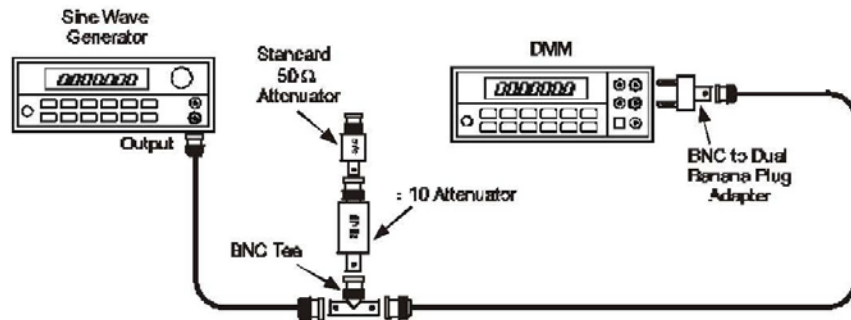

Figure 10, X10 Gain Accuracy Test Setup 1.
5. Reconnect the banana plug adapter to the DMM and connect another coaxial cable from the banana plug adapter to the other female end of the BNC Tee. See Figure 10.